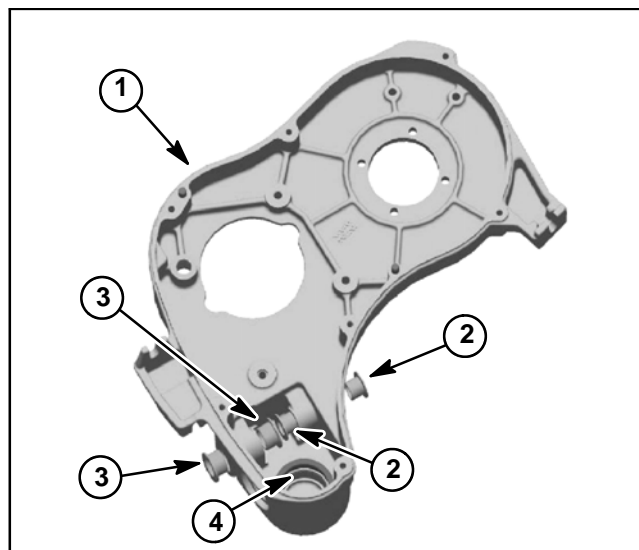

Figure 37
4. Remove retaining ring (item 5) that secures reel clutch lever (item 10) in transmission housing. Slide reel clutch lever from housing. Note missing tooth in spline area of lever which is used for alignment with reel clutch fork (item 16).
5. Pull reel clutch shaft assembly from transmission housing. NOTE: If ball bearing (item 28) on reel clutch shaft assembly is seized in housing, refer to Removing Seized Reel Clutch Shaft From Transmission in this section for removal procedure.
6. Inspect flange bushings and reel brake ring for wear or damage (Fig. 37). Replace bushings and brake ring if necessary.